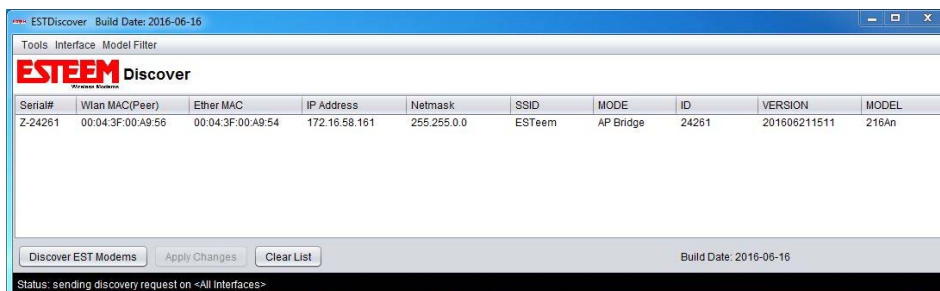

Figure 3: ESTeem Discovery Utility
4. The ESTeem 210 will be displayed (Figure 3). If the ESTeem 210 is not on the same IP subnet as the computer, double click on the IP, Netmask or Gateway and make the necessary changes. Press the *Apply Changes* button when complete.